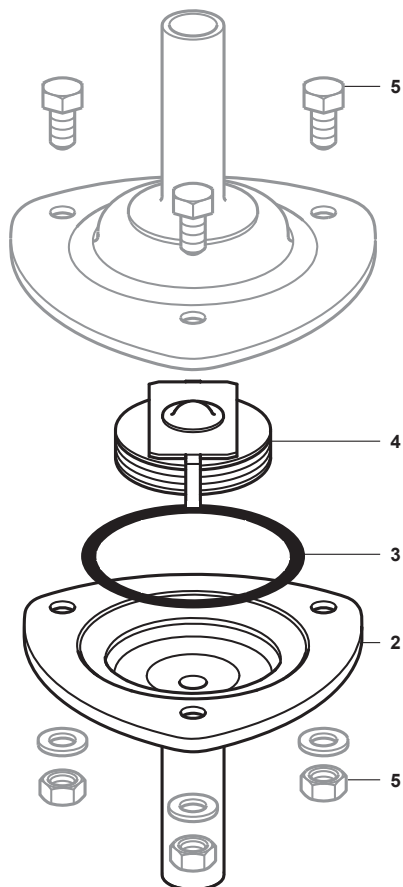

Fig. 6 BTM7
- Remove nuts and bolts (5).
- The end connection (4) with internal seat, 'O' ring (3) and element assembly (2) can then be removed for cleaning or replacement. Ensure that the element assembly (2) on reassembly is fitted in the correct position (see Figure 6).
- Reassemble using a new 'O' ring (3) and with the valve head in position to close onto the seat orifice.
- Replace nuts and bolts (5) and tighten them to the recommended torque (see Table 1) and put back into service.